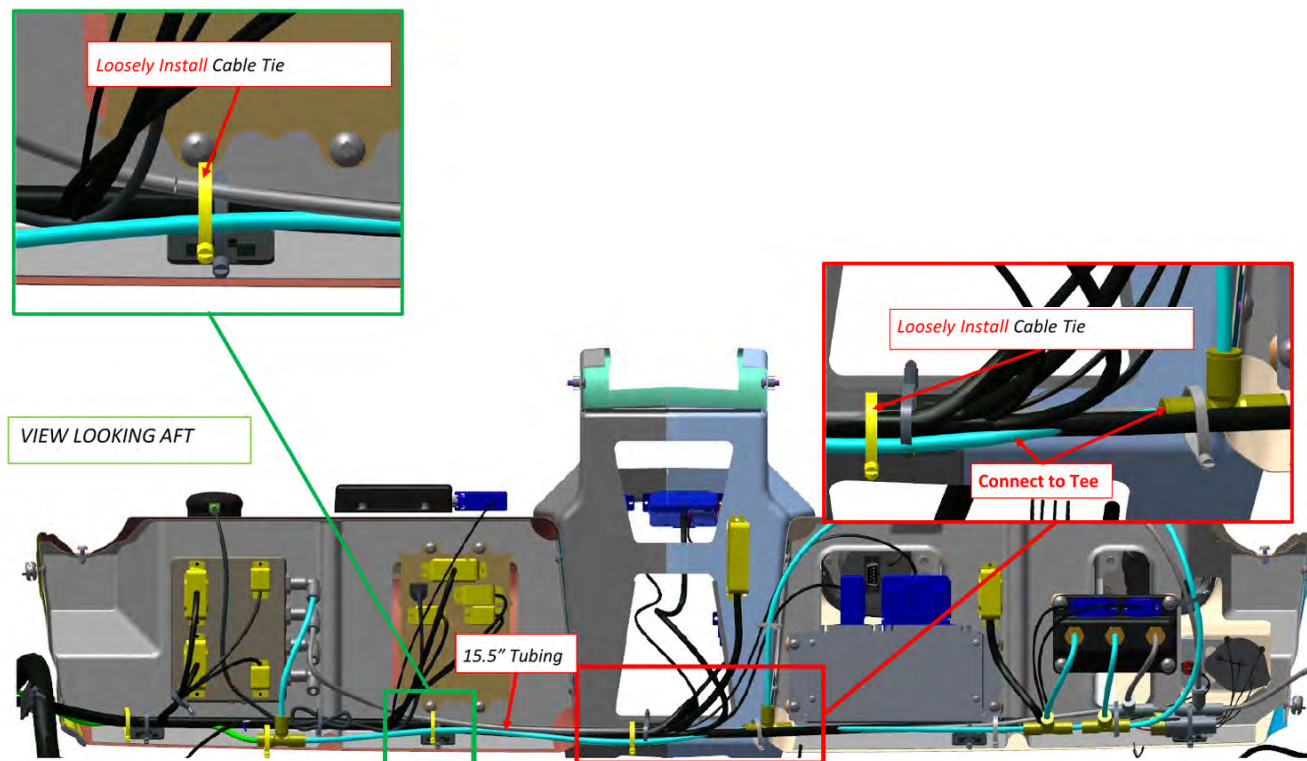

FIGURE 14-58
7. Cut cable to disconnect STATIC tubing from D9144P and D9145P wires. (See Figure 14-58.)